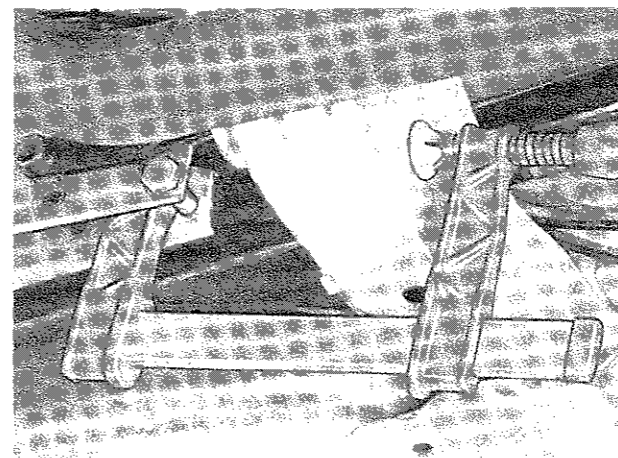

Fig. 10.20 Using a G-clamp to pull out the rear subframe (Sec 24)
- 5 Refit one of the front mounting bolts. Hook a G-clamp behind the bolt and use the clamp to pull the subframe out of the rear mountings (Fig. 10.20).